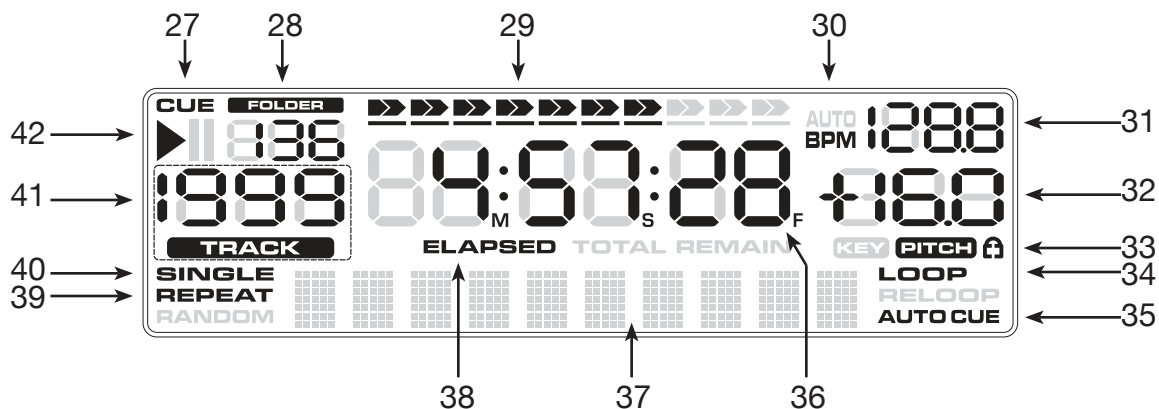

Figure 3
D. LCD DISPLAY PANEL (FIGURE 3)
32. PITCH METER - This meter will display the pitch percentage applied by the *PITCH KNOB* (11).
35. AUTO CUE INDICATOR - This will indicate if the Auto Cue is on or off. Press and hold the *SGL/CTN* (16) for more than a second to toggle the Auto Cue function on and off.